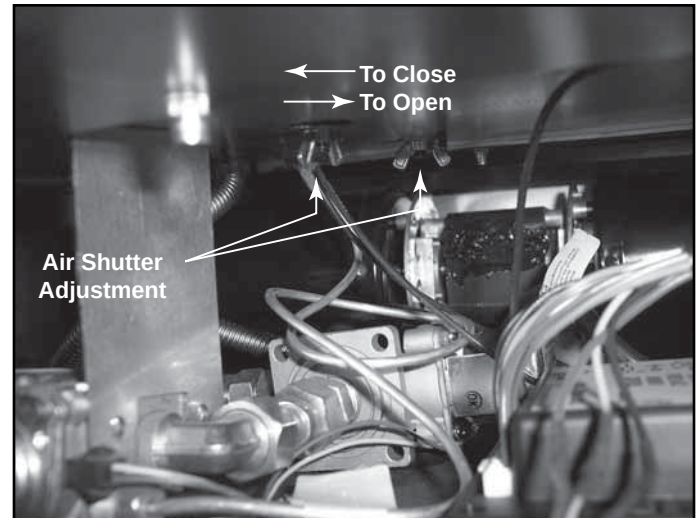

Figure 15.27 Adjusting the Air Shutter
- An LP gas unit is set in the open position. See Figure 15.27.